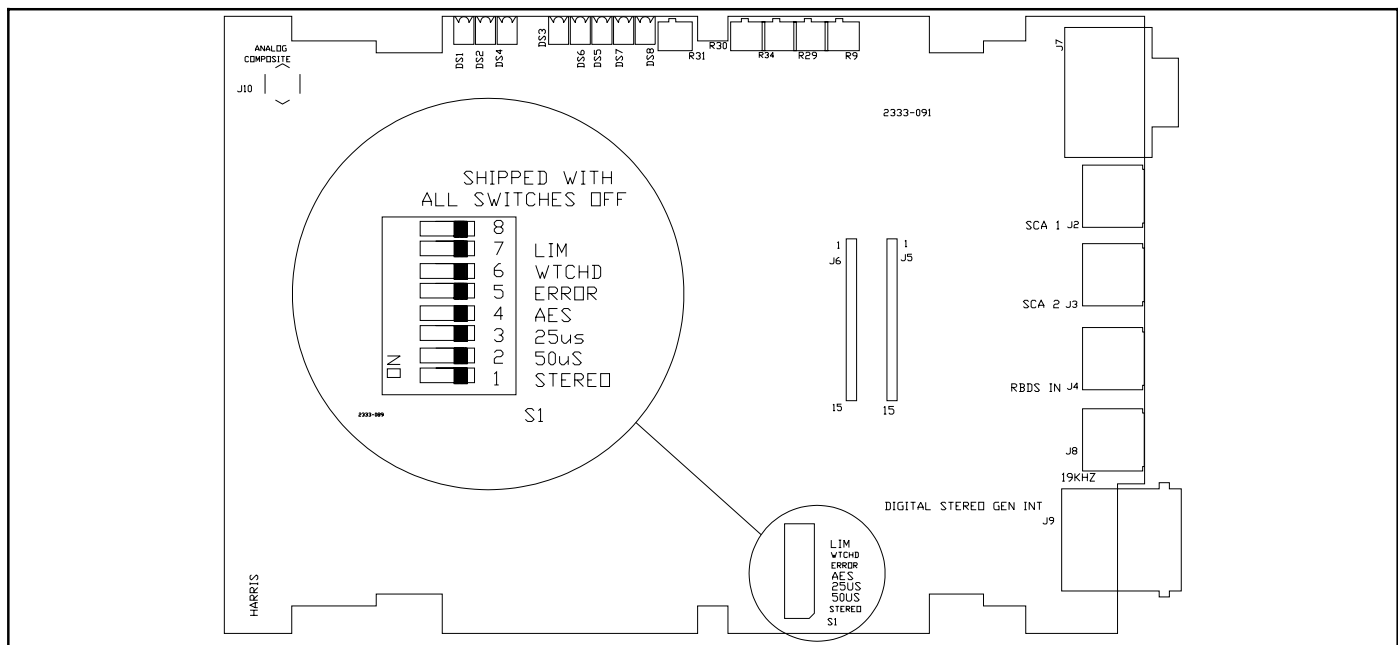

Figure 2-1. Digital Stereo Generator Component Locator
The program and SCA inputs to DIGIT™ will connect to the Digital Stereo Generator Module, mounted on the right rear of the exciter cabinet. The digital audio input requires a male XLR connector while the SCA and RBDS input connections are BNC. The connections available are: (See Figure 2-1)
Some of the inputs on this connector are in parallel with the S1 dip switches shown in Figure 2-1. If this connector is used, the corresponding sections of dipswitch S1 should be placed in the open or "OFF" position (this is the way the unit is shipped). The pre-emphasis switches, S1-2 and S1-3 are not affected by connector J7.
The exciter may be operated at flat response, or with 25, 50 or 75us pre-emphasis on the AES/EBU input. Two sections of S1, located inside the interface module, are used to make the selection per Table 2-1. For switch location refer to Figure 2-1.
- Identify the 8 position dip switch S1 on the PC board, as shown in Figure 2-1.